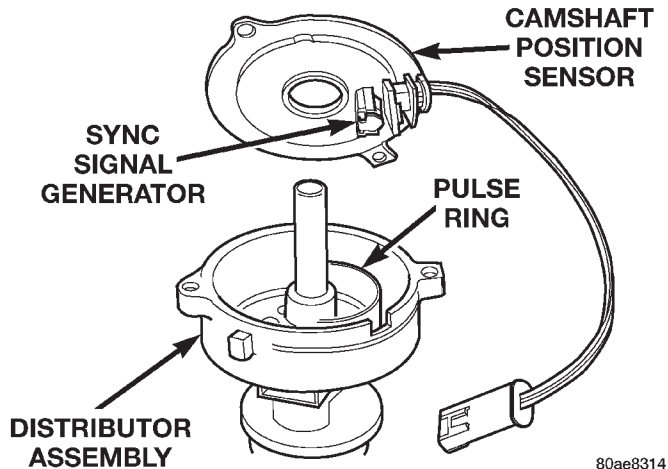

Fig. 29 Camshaft Position Sensor
The camshaft position sensor is located in the distributor (Fig. 29).
(4) Remove distributor rotor from distributor shaft.
(5) Lift camshaft position sensor assembly from distributor housing (Fig. 29).